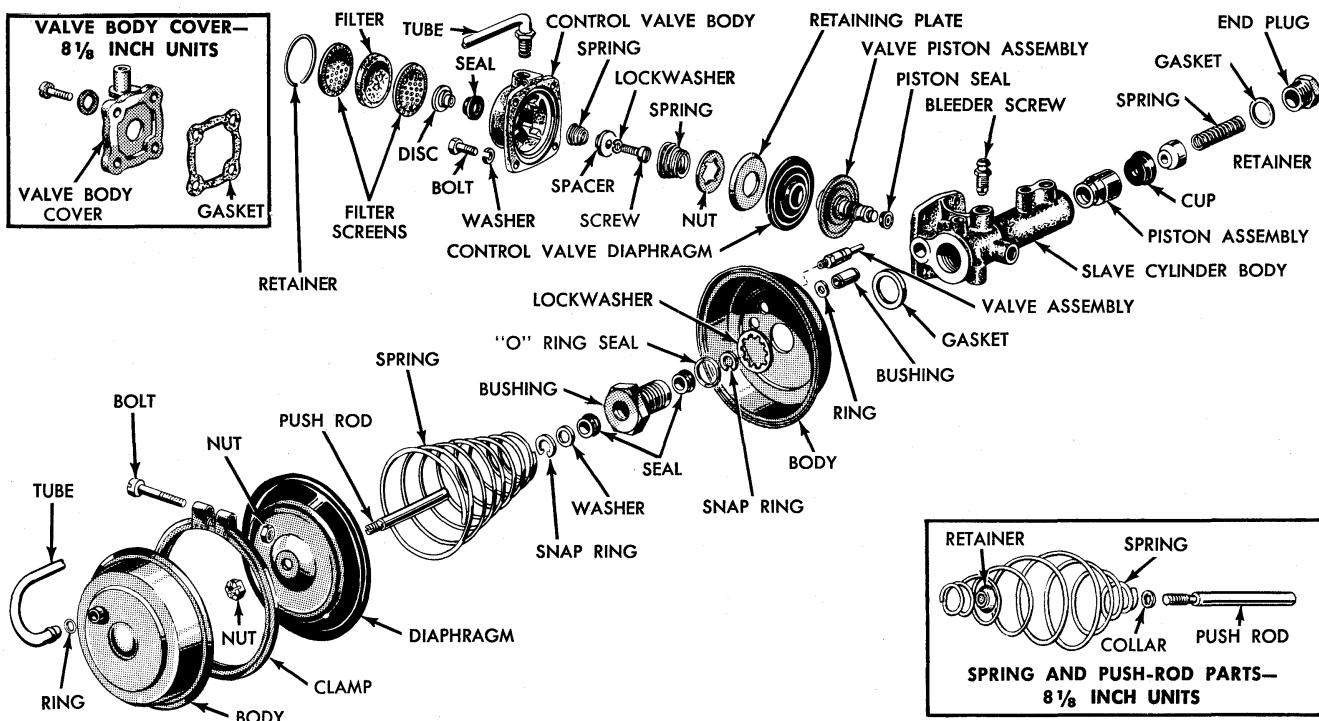

FIG. 29—Disassembled Midland Hy-Power Vacuum Booster
1. Remove the by-pass tube from both the control valve body and the rear body (Fig. 29).
15. Position the collar over the threaded end of the push rod. Position the spring retainer in the spring as shown in the insert in Fig. 29. Insert the push rod and collar in the coils of the spring and through the retainer. Position the diaphragm over the threaded end of the push rod and secure it with the push rod